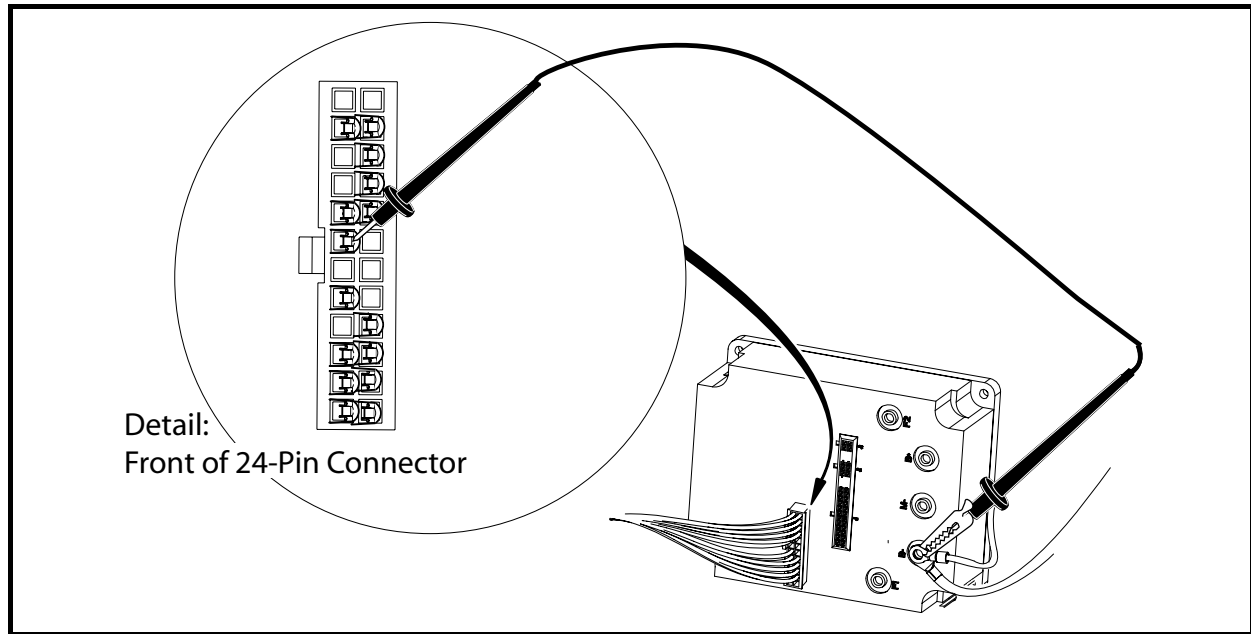

Figure 11-21 Test: Pin 19 (Orange/White Wire)
4. Place a jumper wire with an alligator clip between the B– terminal of the speed controller (use alligator clip for this connection) and pin 19 (orange/white wire) of the 24-pin connector (**Figure 11-21, Page 11-32**). **See following CAUTION.**